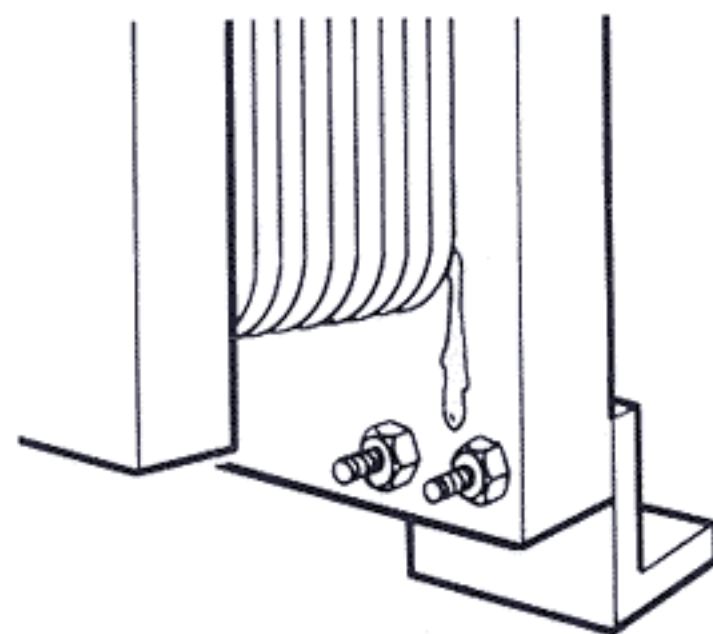

FIGURE 2
3. Attach gasket to plate as indicated in Figure 2.